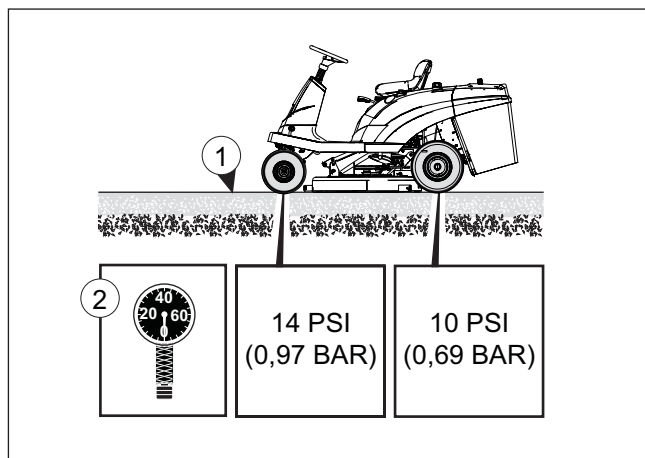
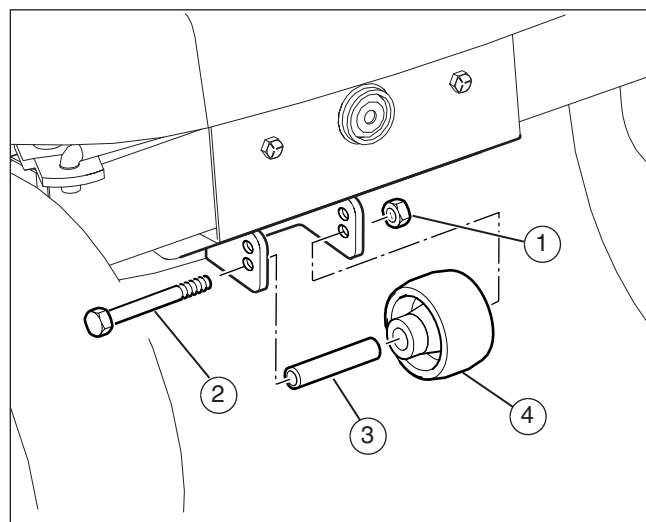
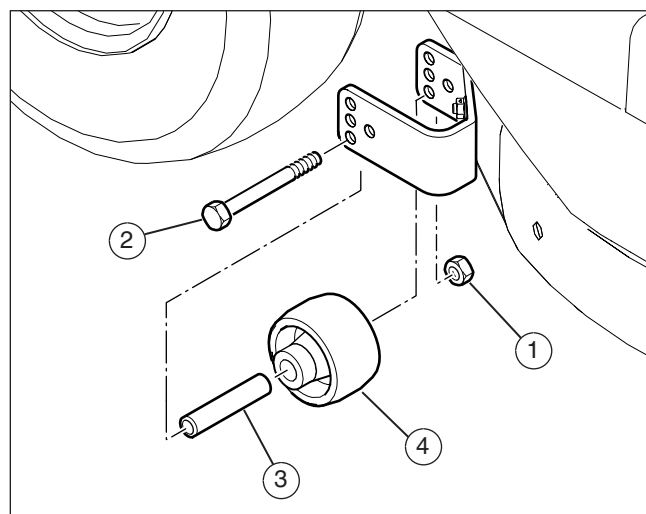

Figure 24
Figure 25
Figure 26
1. Make sure the unit is on a hard flat surface (1) (see **Figure 24**).
2. Check the air pressure in the tires (2). If the air pressure is incorrect, the mower deck will not cut level. Make sure the tires are inflated to: Front Tires 0,97 BAR (14 PSI), Rear Tires 0,69 BAR (10 PSI).
3. Remove the one gauge wheel from the front of the mower deck (**Figure 25**) and the two gauge wheels in the rear of the mower deck (**Figure 26**).
12. Reassemble the gauge wheels to the mower deck brackets (see **Figure 25 and 26**).
1. Remove the nut (1), bolt (2), sleeve (3), and gauge wheel (4) from bracket (see **Figure 25 and 26**).